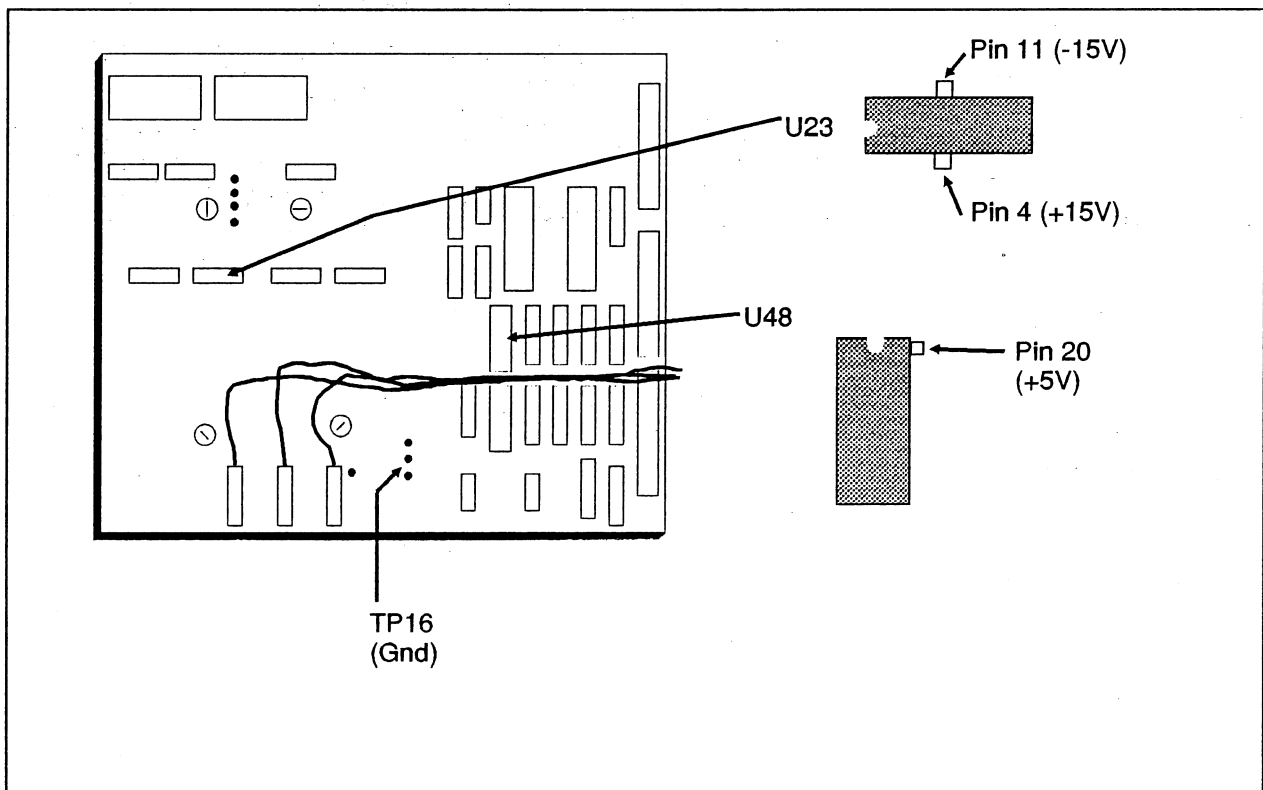

Figure 2-8. DFE Board Test Points
- 8 Check the power supply voltages at the test points listed below. Adjust the power supply if necessary. See Figures 2-8 and 2-9.